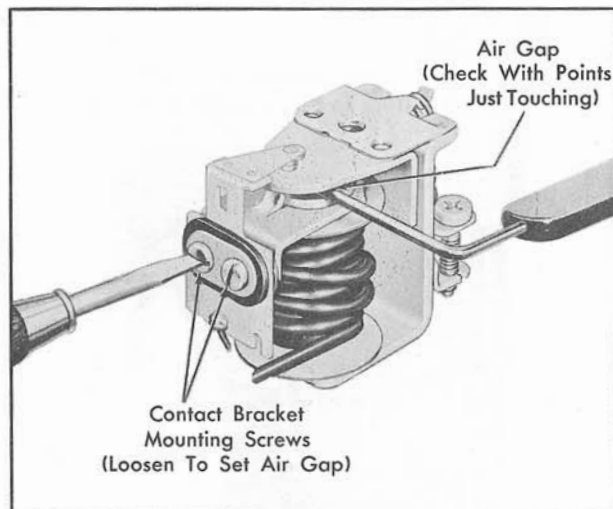

Fig. 12-11 Checking and Adjusting Current Regulator Air Gap
1. Push current regulator armature until contact points are just touching. Measure air gap between armature and winding core, Fig. 12-11. Gap should be .075".